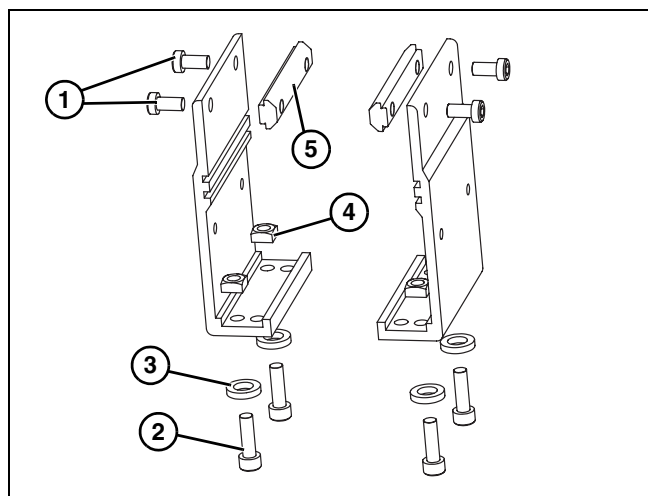
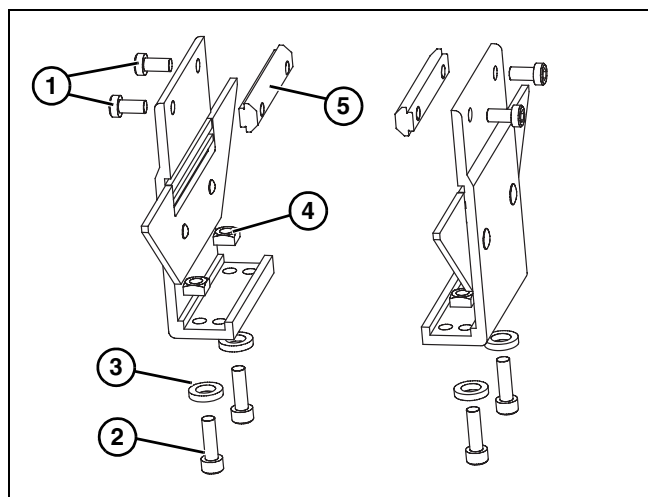
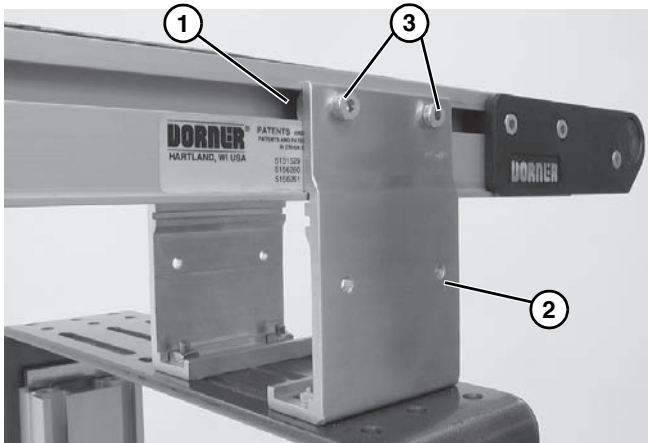

Figure 8
Figure 9
Figure 10
1. Locate brackets. Exploded views shown in Figure 8 and Figure 9.
2. Remove screws (**Figure 8, item 1 and 2**) and (**Figure 9, item 1 and 2**), washers (**Figure 8, item 3**), nuts (**Figure 8, item 4**) and T-bars (**Figure 8, item 5**) from brackets.
3. Insert T-bars (**Figure 8, item 5**) and (**Figure 9, item 5**) into conveyor side slots (**Figure 10, item 1**). Fasten brackets (**Figure 10, item 2**) to conveyor with mounting screws (**Figure 10, item 3**).